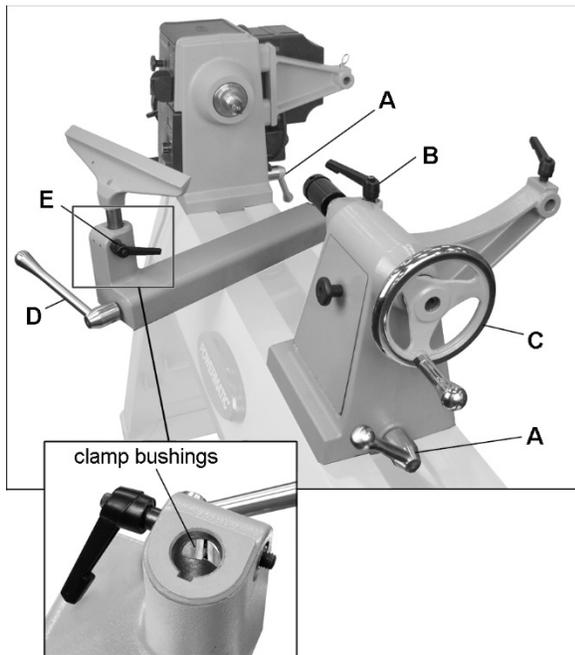

Figure 8-1: headstock, tailstock, tool support
To slide headstock or tailstock, swing locking handle (A, Figure 8-1) backward or forward until head/tailstock can slide freely. When head/tailstock is positioned, swing locking handle until it tightens securely.
Loosen locking handle (B, Figure 8-1) to advance or retract tailstock quill by rotating handwheel (C). Retighten handle (B).
Loosen locking handle (D, Figure 8-1) to slide support base forward or back, and angle it to the bed. Tighten locking handle securely before operating lathe.
Loosen small handle (E, Figure 8-1). Make sure clamp bushings (inset, Figure 8-1) are properly positioned to accept tool support post.
Locking handles, such as B, Figure 8-1, can be rotated to more convenient position. Lift up on handle, rotate it on pin, then release it, making sure it seats on pin.
2. To remove a center, loosen locking handle (B, Figure 8-1) and retract quill by rotating handwheel counterclockwise until center dislodges on its own. Do not allow center to fall out of spindle, as it may get damaged.